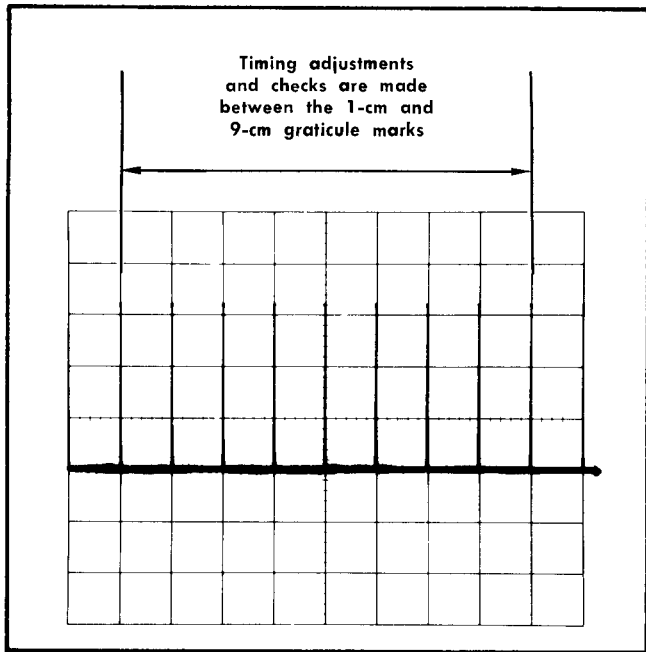

Fig. 6-30. Typical display, sweep timing adjustment; 1 millisecond markers; SWEEP TIME/CM switching, 1 mSEC.
- g. Fig. 6-30 shows a Typical display.